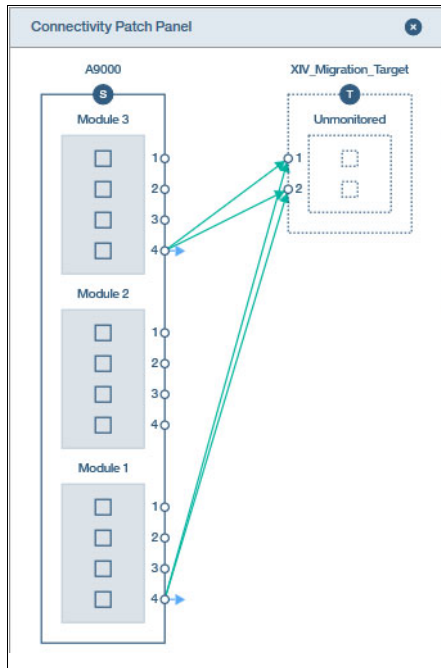

Figure 4-22 Migration connectivity details
- c. If the connection between IBM FlashSystem A9000 and the target system (the XIV Storage System) is successful, the connection is displayed as connected (with a check mark) and you can select **Connectivity Details** to view the connectivity, as shown in Figure 4-22.